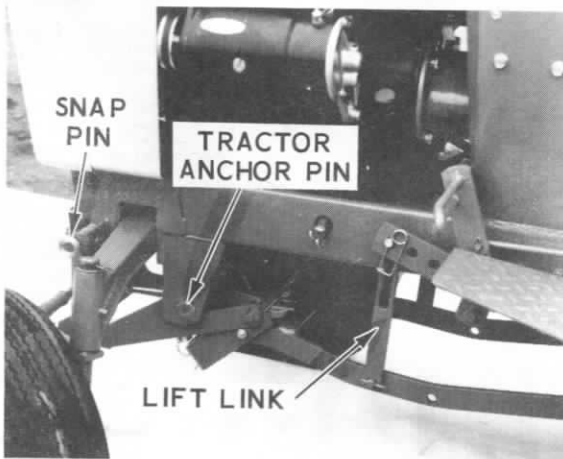

Figure 12.
Model 442 and 444 - Assemble the two longer links to the mounting bracket as shown in Figure 12 and secure with cotter pins.
3. Position the mounting bracket under the front of the tractor and onto the anchor pins as shown in Figure 12. Raise the front of the bracket and release the snap pins to lock in place.
With the tractor lift levers in the fully lowered position, place a plain washer on the clevis pins and install the lift links on the inside of the levers as shown in Figure 12. Secure the links with the safety pins at the outside.